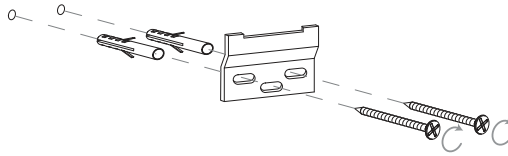

Fig 2. - Hanging Bracket
2. Remove the cabinet from the wall and using a spirit level, mark a horizontal line below the pencil mark, taking into account the location of the mounting points, Place brackets on the line and carefully mark the position of the holes using a soft pencil, *see Fig. 2*.